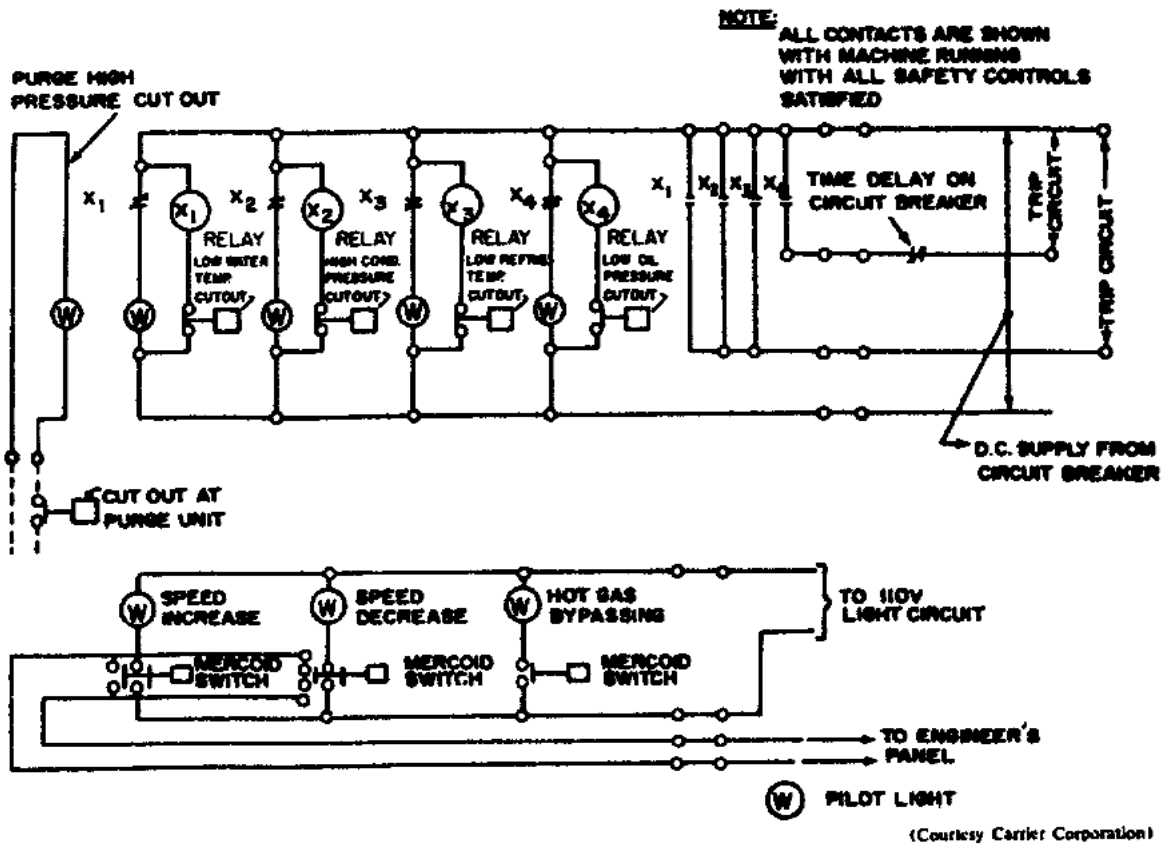

Figure 68. Control panel electrical diagram.
1. Safety controls are provided to stop the centrifugal machine under any hazardous condition. Figure 68 illustrates the electrical wiring diagram. All the controls are mounted on a control panel. The safety controls are as follows: